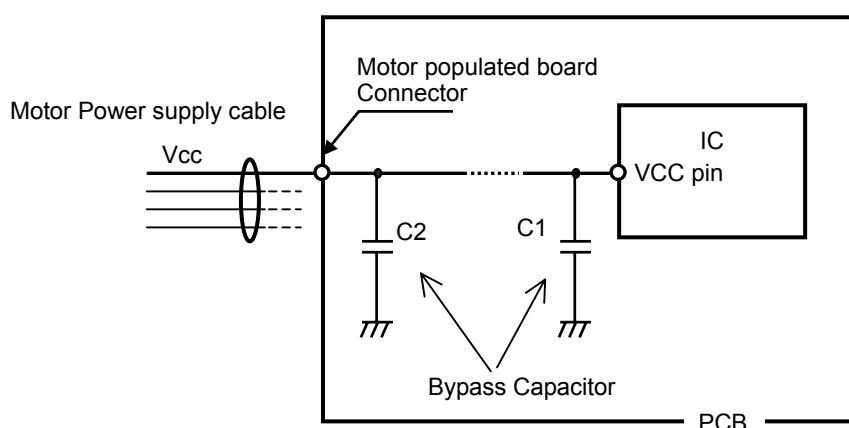

Fig. 8-6. Example to mount surge suppression devices
Countermeasure	(1) Mount a bypass capacitor C1 close to pin of IC. It's effective to use a capacitor that has excellent frequency characteristics, such as a ceramic capacitor, as a bypass capacitor. As a guide, ones of around $1\mu F$ are recommended (The larger the capacity, the more effective it is.). (2) It is more effective to mount a surge suppression device such as bypass capacitor C2 close to connector of motor populated board like figure 8-6.